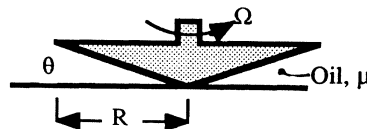

Fig. P1.56
**1.56\*** For the cone-plate viscometer in Fig. P1.56, the angle is very small, and the gap is filled with test liquid  $\mu$ . Assuming a linear velocity profile, derive a formula for the viscosity  $\mu$  in terms of the torque  $M$  and cone parameters.